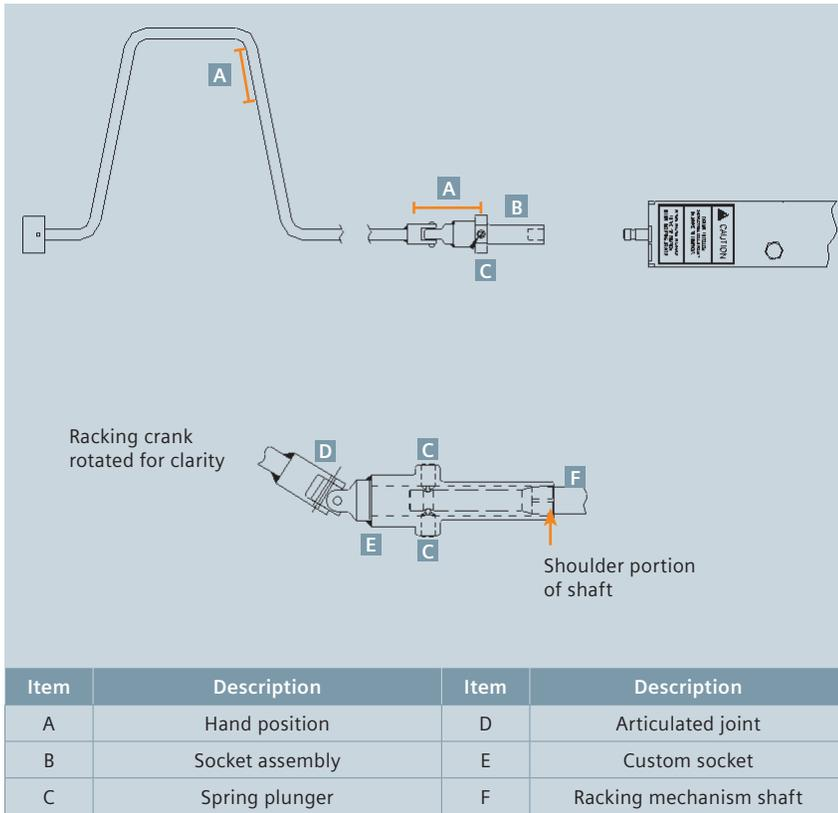

Figure 42: Racking crank engagement procedure
2. Hold the socket of end of the racking crank in one hand and the crank handle in the other hand (refer to Figure 42: Racking crank engagement procedure).